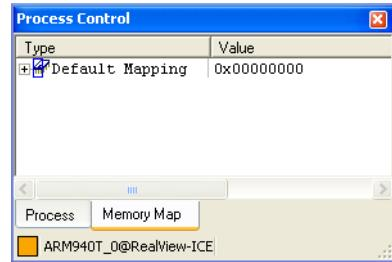

Figure 9-13 Default memory map
2. Select **Delete All** from the context menu. All memory map entries are deleted, and replaced with the default entry. Figure 9-13 shows an example: